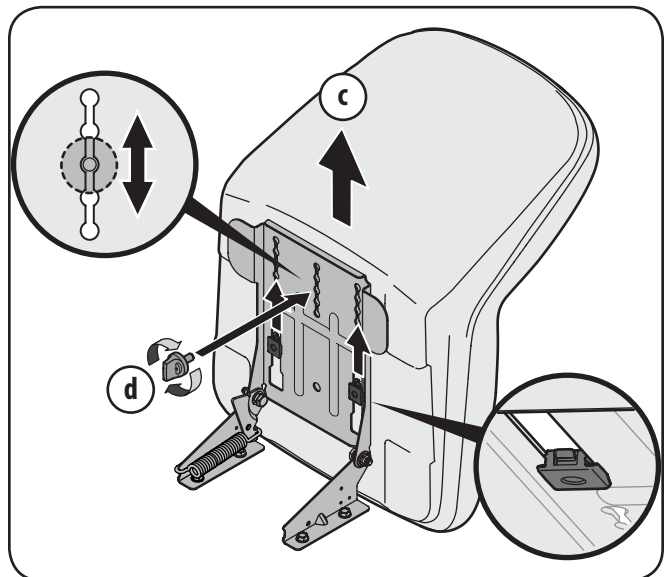

Figure 3-5
3. Slide the seat rearward in the seat pivot bracket (c), lining up the center rear slot in the pivot bracket with the remaining hole in the seat’s base. See Figure 3-5.
**Note:** Be certain the two seat tabs engage the pivot bracket as shown in the bottom right inset of Figure 3-5.
4. Select desired position for the seat, and secure with the adjustment knob (d in Figure 3-5) removed earlier.
5. To adjust the position of the seat, remove the adjustment knob on the bottom of the seat. Slide the seat forward or backward as desired. Reinstall the adjustment knob. See Figure 3-5.